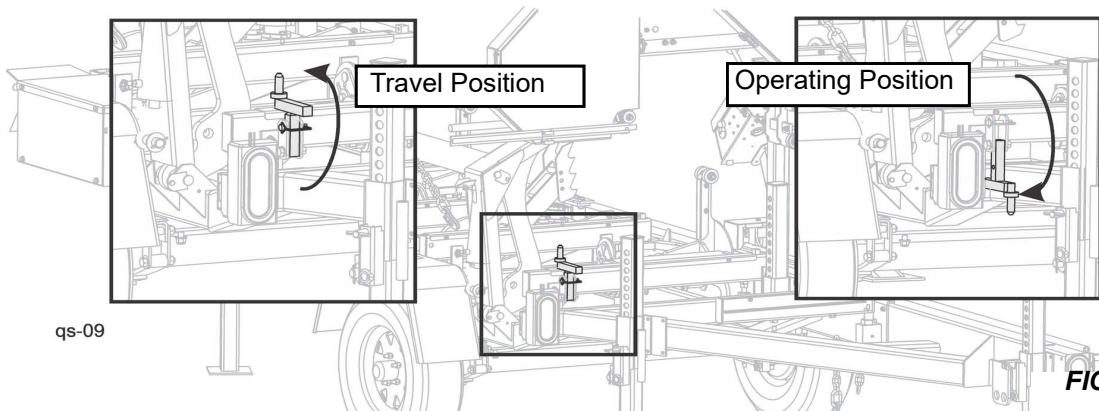

FIG. 3-7
6. Lower the rest pin. See FIG. 3-7.